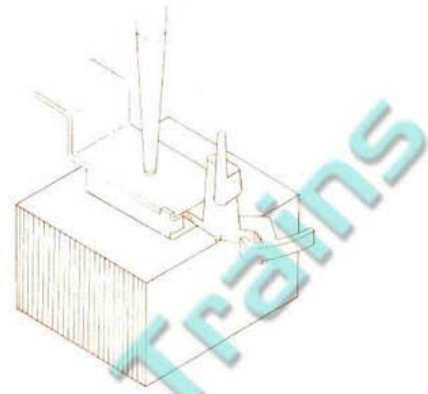

FIGURE 3
b. To assemble, place coupler pocket assembly on a metal block, position coupler over pin, which is part of the pocket assembly, and place retainer plate over this pin. Then tap end of pin lightly with center punch until pin is peened over (see figure 3).